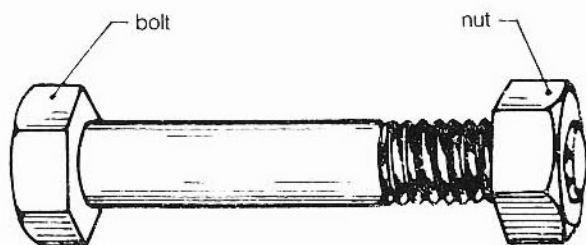

Figure 1 Nut and bolt
- 37 *Fasteners* Many other fasteners are used in industry and are too numerous to mention individually. A few of these are shown in Figure 1. Fasteners in general have been described. Other bolts, nuts and screws are made in various metals and qualities with tensile strengths and dimensions varying from those in common use.
An internal thread is a thread formed in a round hole, as in a nut (Fig. 1).